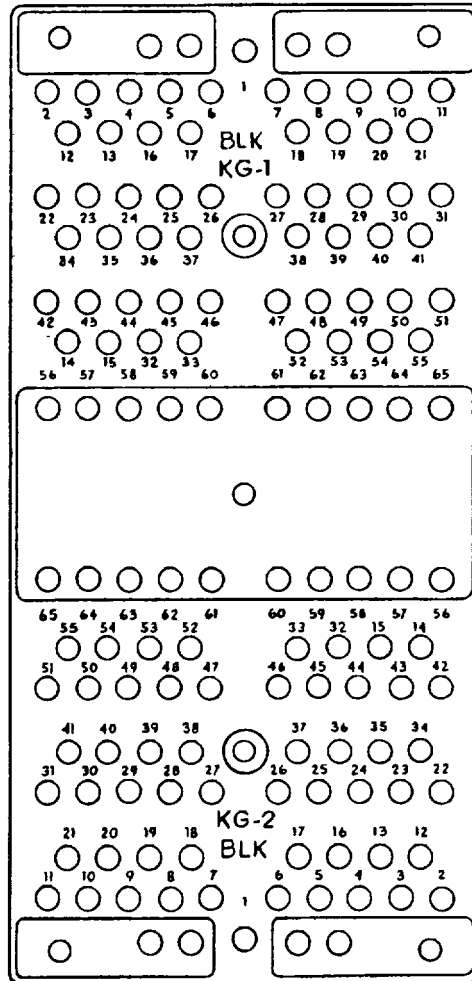

Figure 3-5. BLACK Terminal Board
3-3.2. Black Compartment Box Connections. Connect fixed plant wiring to KG BLACK via black compartment box terminal board (Figure 3-5) as follows:
- a. Using a Phillips head screwdriver, remove two pan head screws (5), lock washers (6), and flat washers (7) that secure black compartment box cover (8) to black compartment box. Remove cover.
- b. Using Figure 3-5 and Table 3-2 as a guide, connect fixed plant wiring through cutout KG1 BLACK. Repeat for KG2. Terminal numbers match their corresponding KG BLACK connector pin numbers.